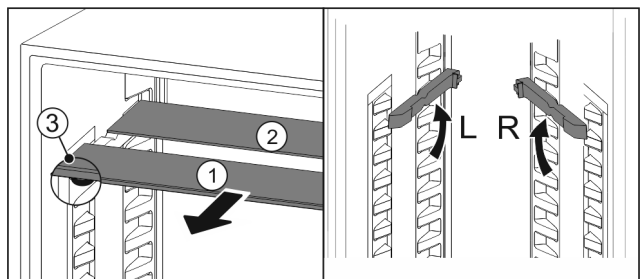

Fig. 142
- ▶ Pull the glass panels out Fig. 142 (1) from the front, one at a time.
- ▶ The glass panel Fig. 142 (1) and trim strip are at the front.
- ▶ The stops Fig. 142 (3) point down.